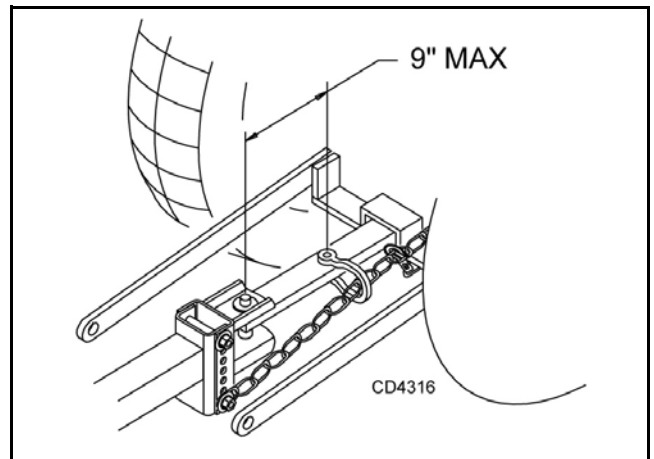

Figure 10. Tow Chain Installation
5. Attach the safety chain to the tractor as shown in Figure 10. Limit chain slack to only what is needed for turning. Be sure to lock hook securely.